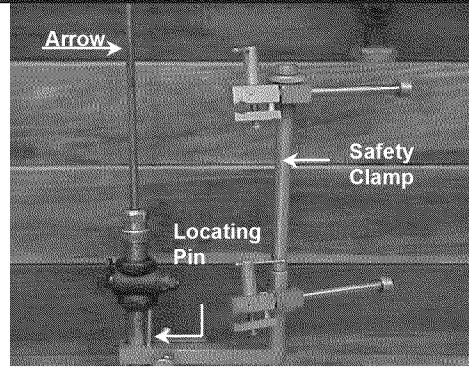

Figure 1
6. Install safety clamp with correct pin. (Fig. 1).
7. Install stuffing box with rubber stopper in the upper position, then clamp upper clamp around shaft tube. (Fig. 1).
8. Open valve and align shaft tube arrow parallel to valve tang. (Fig. 1).